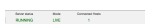

Figure 47. felix-web-mon status display.
- Status bar: as shown in Figure 47. Displays some information like the client-server connection status, the number of connected hosts and the mode 'live' or 'history'.